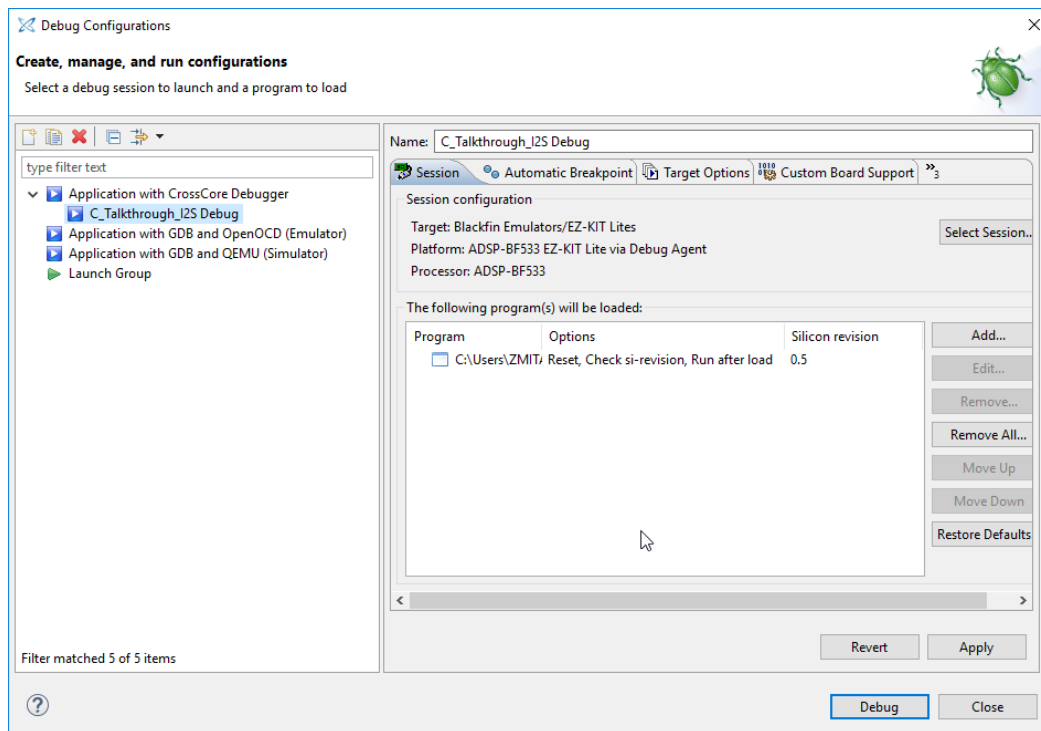

Figure 17 Starting the debugging
- c. Press **Debug** button (Figure 17)